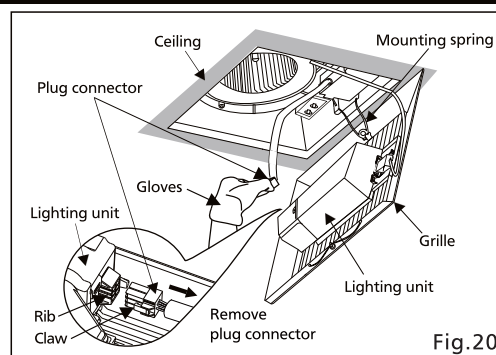

Fig.20
1. Remove grille by pulling down one mounting spring. Remove plug connector then pull down the other mounting spring. (Squeeze mounting spring and pull down carefully) (Fig.20)